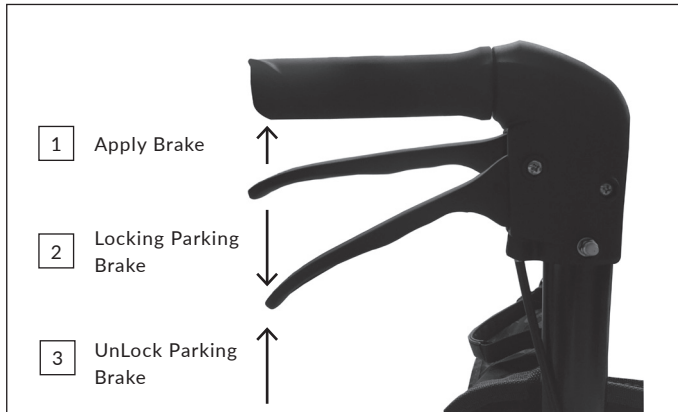

Figure 9:
1. Refer to Figure 9. Squeeze the brake lever up to apply the brake. Let go of the lever to release the brake.
2. Refer to Figure 9. Push the brake lever down until it locks into position.
3. Refer to Figure 9. Pull the brake lever up. An audible click will be heard as the brake is released.